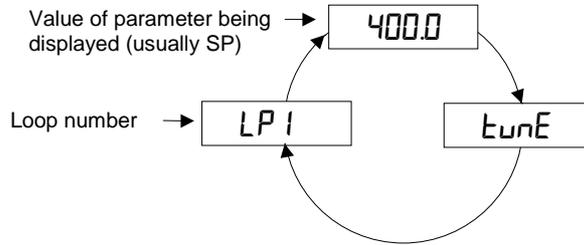

Figure 10-1: Display of Tuning State (Middle Display)
9. Repeat the above for all PID sets. For each set, adjust the SP approximately midway between the two boundaries (Figure 10-1)
Cascade control uses a combination of two PID controllers, where the output of one (the master) provides the setpoint for the second (the slave). Cascade control was described in more detail in section 9.10. Figure 10.1 shows a cascade controller applied to the control of a furnace load.